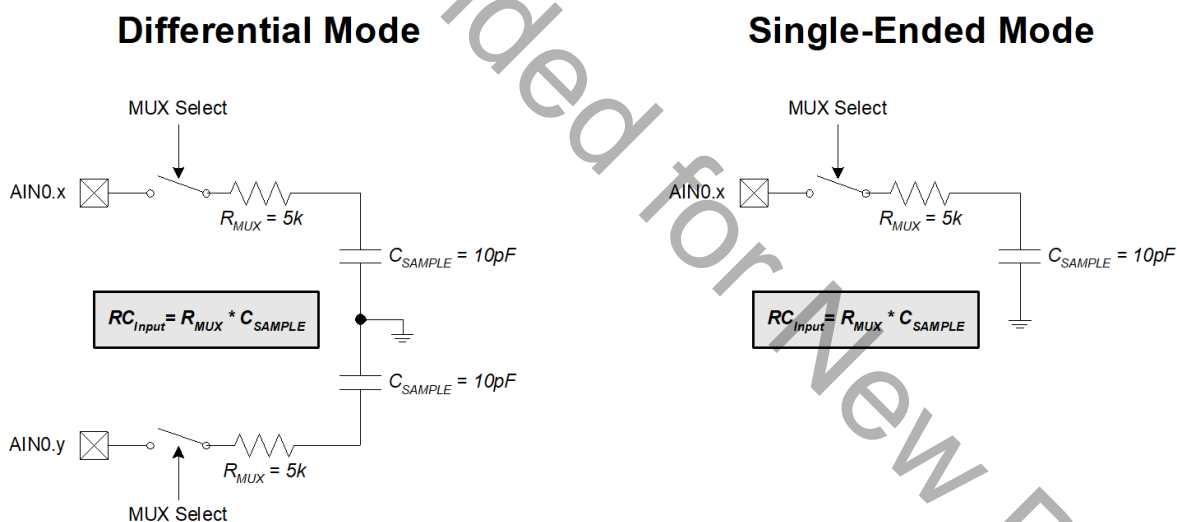

Figure 6.5. ADC0 Equivalent Input Circuits
A minimum tracking time is required before an accurate conversion can be performed. This tracking time is determined by the ADC0 MUX resistance, the ADC0 sampling capacitance, any external source resistance, and the accuracy required for the conversion. Figure 6.5 shows the equivalent ADC0 input circuits for both Differential and Single-ended modes. Notice that the equivalent time constant for both input circuits is the same. The required settling time for a given settling accuracy (SA) may be approximated by Equation 6.2. When measuring the Temperature Sensor output,  $R_{TOTAL}$  reduces to  $R_{MUX}$ . Note that in low-power tracking mode, three SAR clocks are used for tracking at the start of every conversion. For most applications, these three SAR clocks will meet the tracking requirements. See Table 6.2 for absolute minimum settling/tracking time requirements.